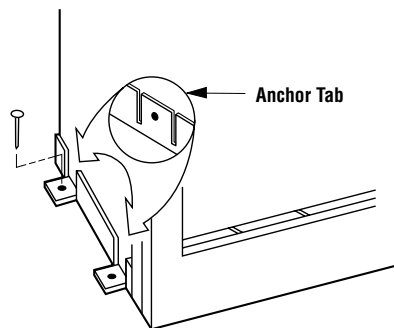

Figure 17
Step 4. The fireplace should be anchored to the floor. Bend down the four (4) anchor tabs located at the base of the fireplace and secure to the floor with 8d nails (*Figure 17*).